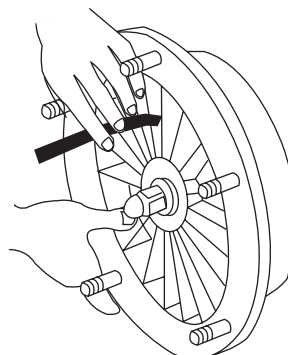

Fig. 31 Impeller–casing clearance
1. Measure the clearance between the impeller and the casing using a leaf feeler gauge (Fig. 31, "Impeller–casing clearance").